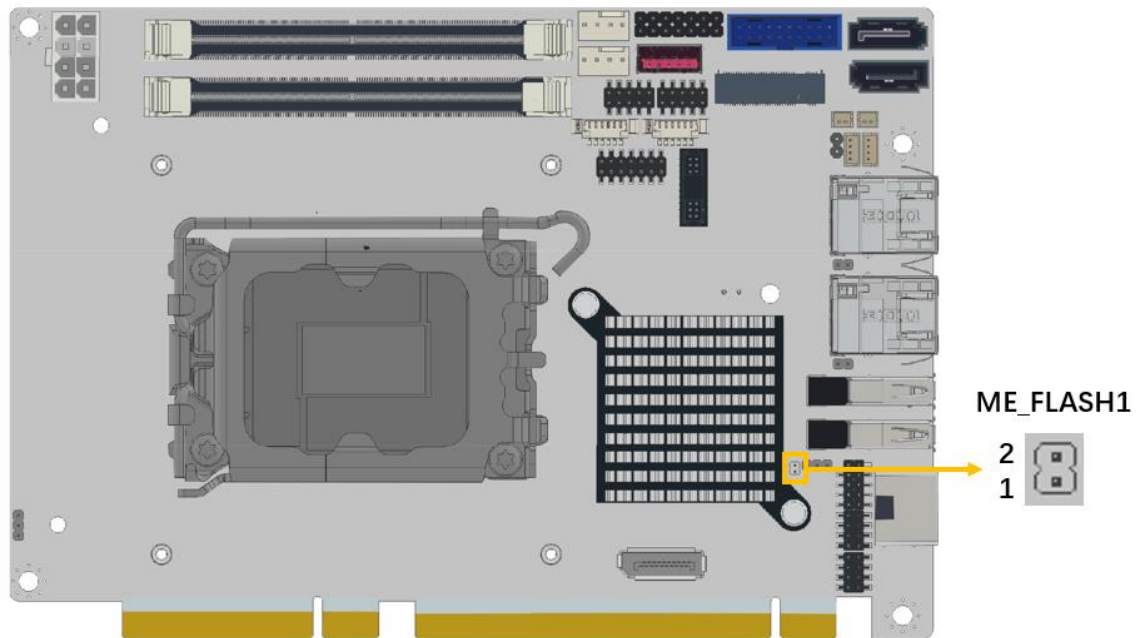

Figure 3-7: Flash Descriptor Security Override Jumper Location
- CN Location:** See Figure 3-7